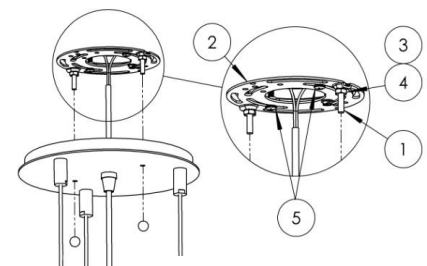
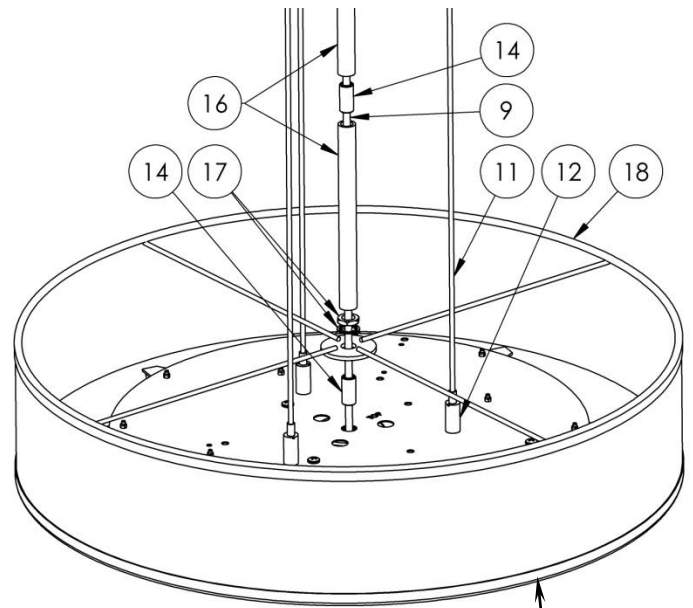

FIG 1
FIG 3
- Install the short screws (1) with lock washers (3) and hex nuts (4) (all provided) into the offset holes of the round mounting bracket (2) as shown in Fig 1 & 2. Be sure the two screws (1) line up with holes in canopy (6) and point away from junction box (not provided).
- Install and secure the round mounting bracket assembly to the junction box (not included) using two screws (5) to secure it.
- A center pipe stem is supplied with this fixture consisting of up to three, 12" lg. pipe sections (16) to be connected with pipe nipples (14), supplied. Pre-assemble pipe stem. Using the nut & washers from strain relief (8), attach swivel (15) with nipple (14). Attach (pre-assembled) pipe stem to swivel. Route the power cord (9) through the pipe stem first, before attaching to fixture (Fig 3) above nut & washer (17) & diffuser (18).
- Feed the three aircraft cables (11) to the connectors (12) that are mounted on the pan. Insert the cable by pressing the "Spring Pin" (12) (Fig. 3) downward and holding until it comes out at the other end. Repeat these steps for the other cables. Note: **Cable length adjustments might be needed again for the correct cord length, alignment and be equal to the center pipe stem length.**
- A. Line up the two holes in the canopy (6) with the two screws in the mounting bracket (2). Secure fixture to screws (1) with two thumb nuts (7).
- A. Adjust the aircraft cables up and down by pressing the “spring pin” (12) downward and holding until the proper cable length is attained based on the center pipe stem length so they are taut and even. Repeat for other two cables. Note: Extra cable length should be looped, tied, or cut to minimize light shadows within the diffuser.
Step 6 – Mounting diffuser (Fig. 3, 4 & 5)